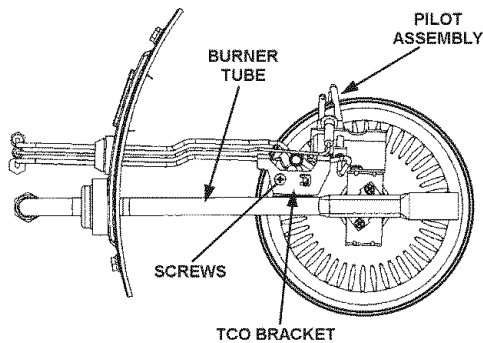

FIGURE 21.
- To remove the natural gas pilot assembly, remove the Phillips-head screw holding the TCO bracket to the burner tube bracket, see Figure 21.